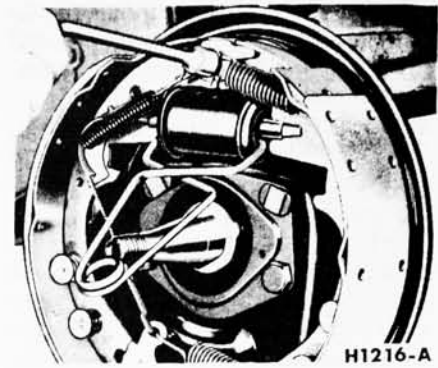

FIG. 9—Retracting Spring Removal
5. Remove the primary shoe to anchor spring with the tool shown in Fig. 9. With the same tool, remove the secondary shoe to anchor spring and unhook the cable eye from the anchor pin.